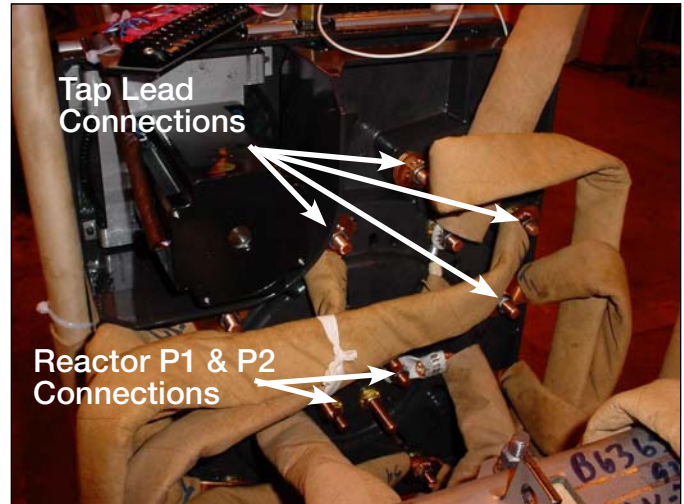

Figure 7. Tap Leads and Reactor Connections.
- Use a deep well 9/16 inch socket with ratchet or a 9/16 inch wrench to loosen and remove all lead connections from the back of the tap changer contact board. See Figure 7.